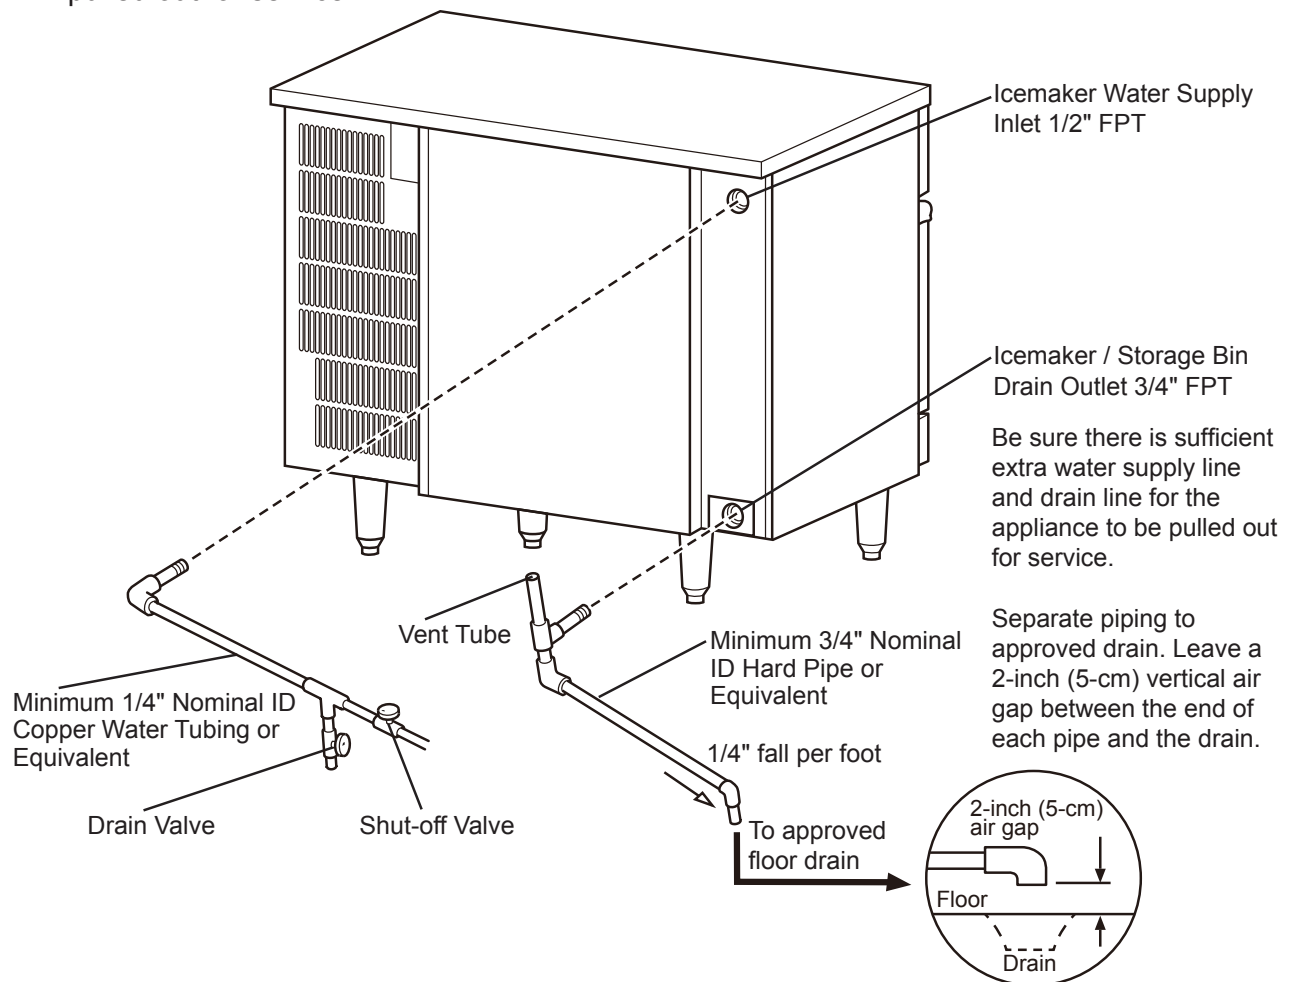

Fig. 4
F. Water Supply and Drain Connections - See Fig. 4
- 7) Close the icemaker water supply line shut-off valve. See Fig. 4.